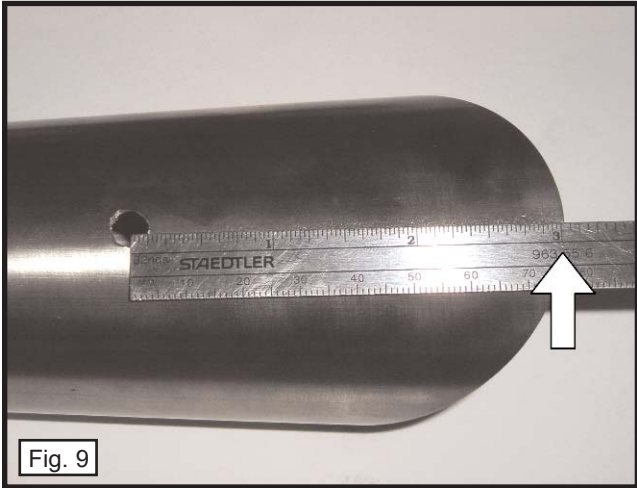

Fig. 9
- 5) Add 7/16" to the measurement taken in steps 3-4. On the outside of the GP1 megaphone, make a mark that is the measured amount from the highest point on the slash cut. (Fig. 9)
- 6) Carefully drill a 1/4" hole in the megaphone where you made your mark. Deburr the hole. (Fig. 9)